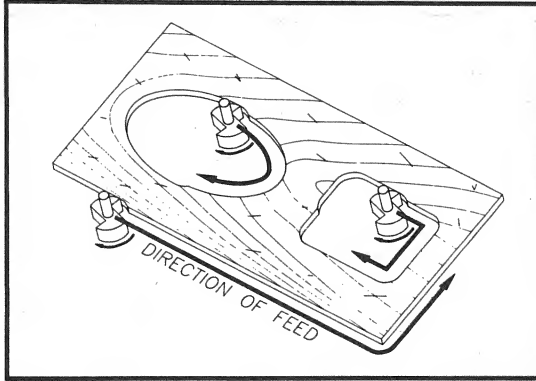

Fig. 5
**WARNING:** Avoid "Climb-Cutting" (cutting in direction opposite that shown in Fig. 5), "Climb-Cutting" increases the chance for loss of control resulting in possible personal injury. When "Climb-Cutting" is required (backing around a corner), exercise extreme caution to maintain control of router.